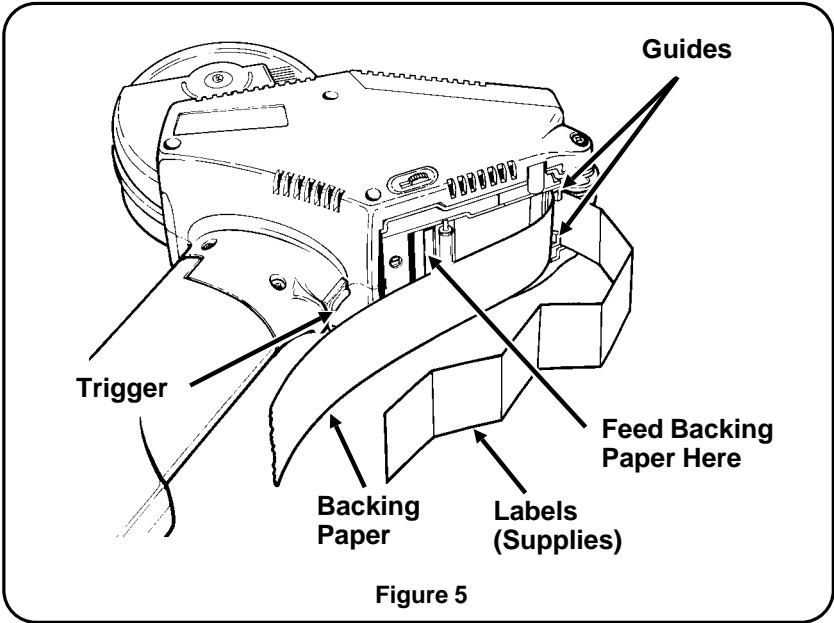

Figure 5
9. Pull the backing paper down between the guides and against the metal roller (Figure 5).